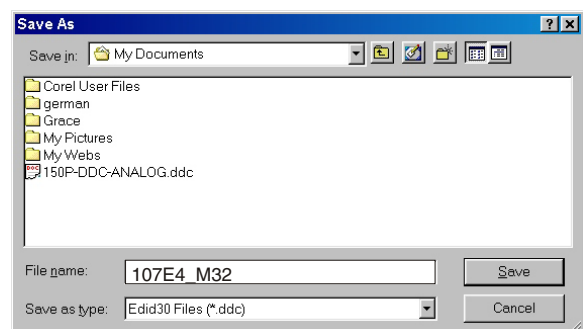

Fig. 19
- Click  (Save) icon (or click "file" -> "save as") from the tool bar and give a file name as shown in Fig. 19. The file type is EDID301 file (*.ddc) which can be open in WordPad. By using WordPad, the texts of DDC data & table (128 bytes, hex code) can be modified. If DDC TEXTS & HEX Table are completely correct, it can be saved as .ddc file to re-load it into EEPROM for DDC Data application.